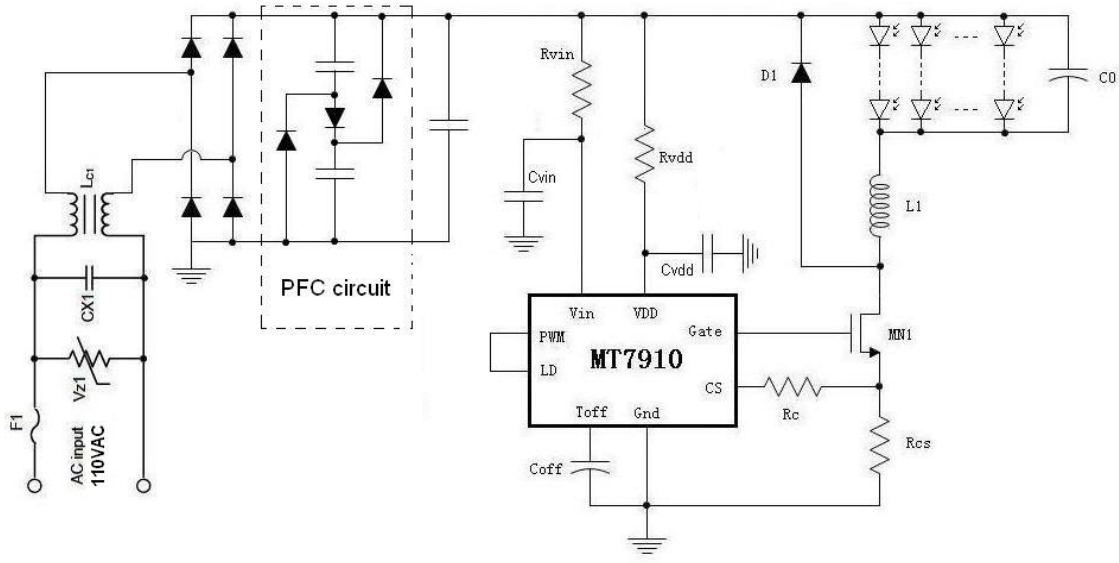
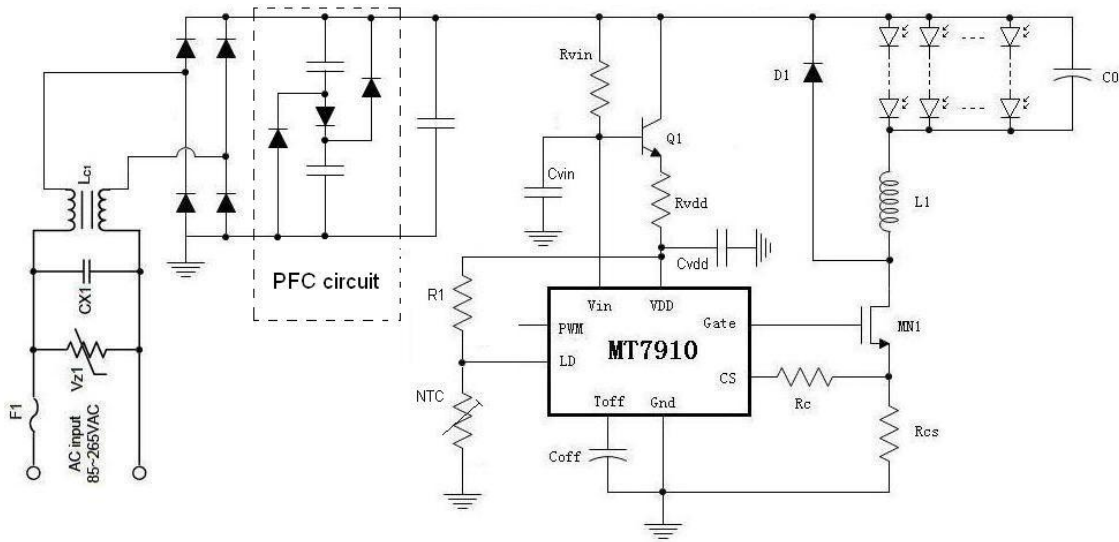

Fig.2 MT7910 Application Circuit (Low Cost)
Fig.3 MT7910 Application Circuit with Temperature Compensation
- Linear dimming may be desired to adjust the current level to reduce the brightness of the LEDs. Connecting a resistor between VDD pin (Pin 2) and the LD pin (Pin 4), and also connecting an NTC thermistor between LD pin and ground (refer to Fig.3). The MT7910 is able to realize the temperature compensation function. (See more detail in **Temperature Compensation** section)
MT7910 provides thermal protection for LEDs. Refer to Fig.3, applying a NTC thermistor close to the LEDs string will realize the temperature compensation of LEDs current. If the temperature of the LEDs rises, the resistance of the NTC thermistor decreases until the voltage of the LD pin falls below 250mV. Then the average current is controlled by the LD pin and the temperature compensation function starts. The formula is as below:
When the input power to the LED driver does not exceed 25W, a simple passive power factor correction circuit consisting of 3 diodes and 2 capacitors can be added across the rectified AC line input to improve the line current harmonic distortion and achieve a power factor greater than 0.85. Reference to MT7910 typical application circuit (Fig.2, Fig.3).
Refer to Fig.2 application circuit,
This is a huge power being wasted and will lower the system efficiency. So, application circuit shown in Fig.2 only suits for relatively low input voltage and low cost application, such as 110VAC input application.
In order to support full input voltage range, 85VAC~265VAC, application circuit in Fig. 3 will be considered.